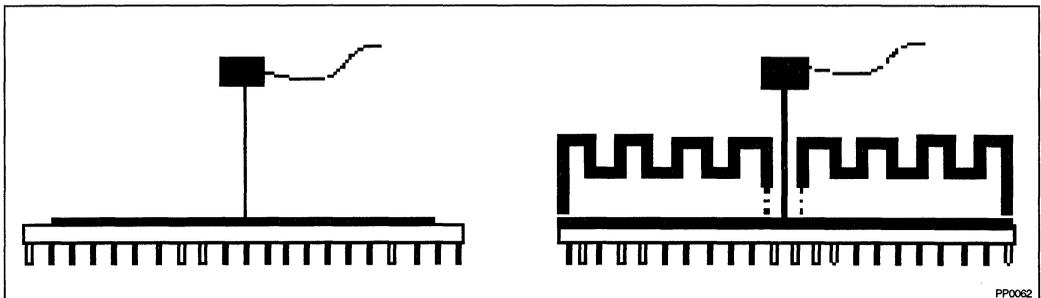

Figure 26-1. Technique for Measuring T_C .
To verify that the proper T_C (case temperature) is maintained, it should be measured at the center of the package top surface on the heat spreader (opposite of the pins). The measurement is made in the same way with or without a heat sink attached. When a heat sink is attached a hole (smaller than .150" diameter) should be drilled through the heat sink to allow probing the center of the package. See Figure 26-1 for an illustration of how to measure T_C .
- The thermocouple should be attached at a 90-degree angle as shown in Figure 26-1.